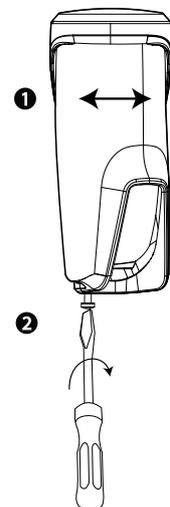

Figure 9:
Note: When the detector is resting on the unscrewed bracket, it can be rotated freely to a more exact final position. See Hole Number 1 in Figure 9.
7. While the LED is blinking, tighten the bottom screw to close the bracket. See number 2 in Figure 9.